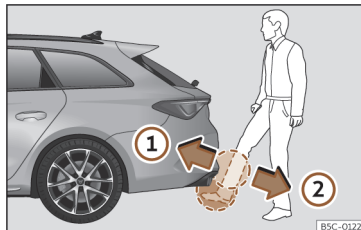

Fig. 78 Rear lid with sensor-controlled opening (Easy Open).
- With a brisk movement, bring your foot and lower leg as close as you can to the bumper. The lower part of the leg needs to be close to the upper sensor area and your foot to the lower sensor area >>> Fig. 78 ①.
- Quickly remove your foot and lower leg from the sensor areas >>> Fig. 78 ②. The rear lid will open automatically.